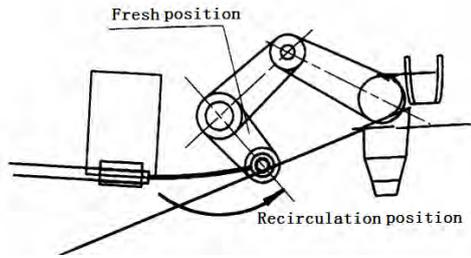

Fig.18-15
3) FRESH AIR CONTROL (FRESH- CIRC SELECTOR) CABLE (Fig. 18-15)